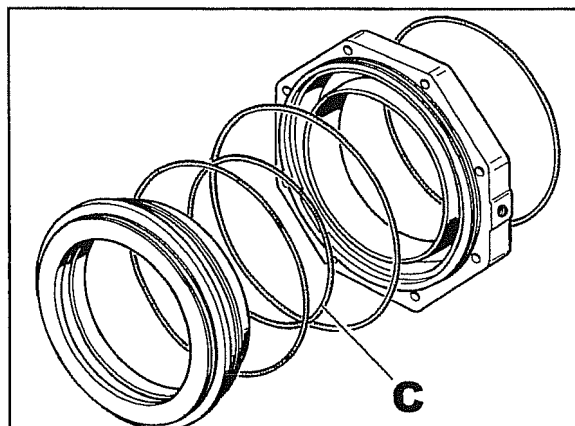

Fig. 30
Fig. 30 shows an exploded view of the cylinder, piston and seal rings
- When reinstalling the piston in the cylinder, pay special attention to make sure that inside diameter seal ring **C** fig. 30 stays in its seating during operations.